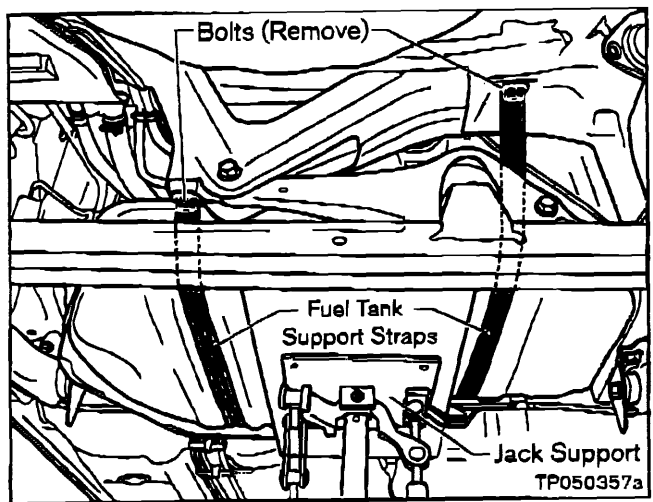

Figure 7
12. Place a suitable Jack under the Fuel Tank and then remove the two Bolts that secure the Fuel Tank Support Straps (see Figure 7).